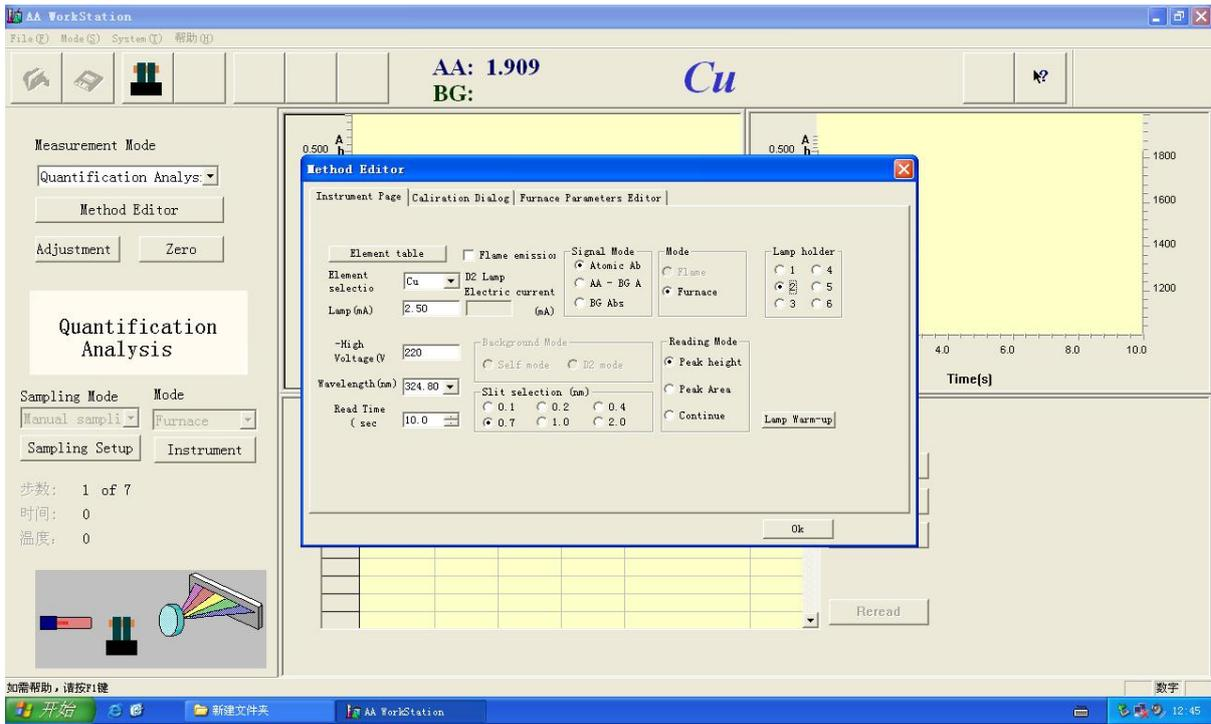

Figure 4-26
12. "Lamp Holder".only can select one among 1,2,3,4,5,6(Figure 4-26)